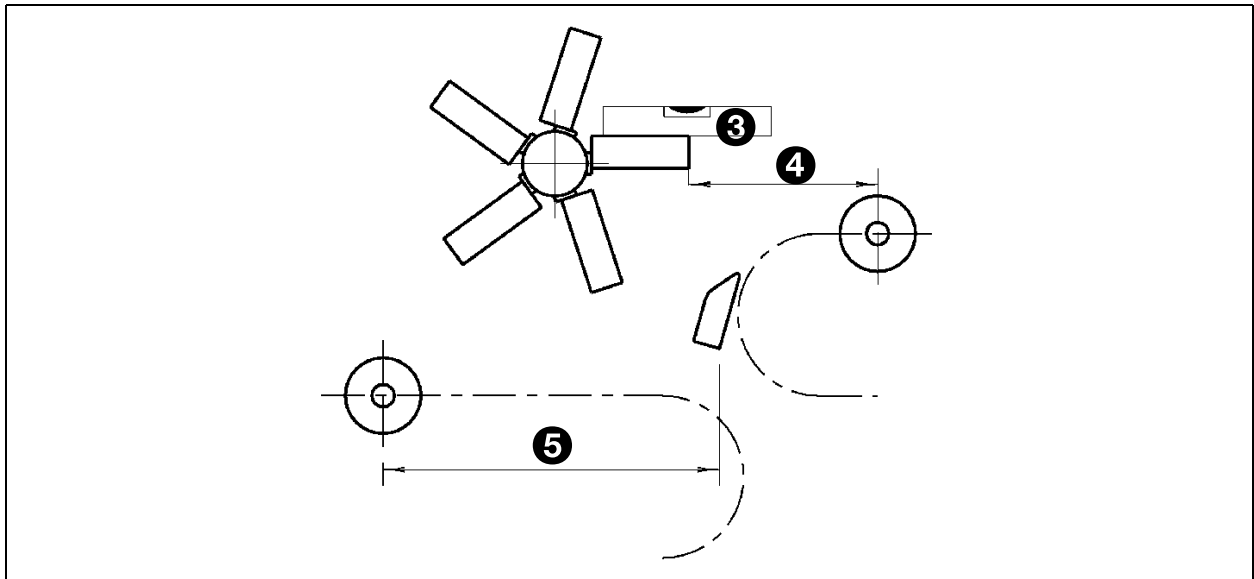

*Fig. 18 - Angle of cups strip*
2. The cup strip must be mounted at a specific angle. Check this position using fig. 18, which shows the correct position.